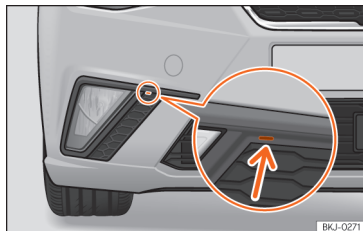

Fig. 163 Fog light: remove the grille
- Lever the groove with a screwdriver >>> **Fig. 163** (arrow). Next, remove the clips located on the edge of the grill, levering them gently.